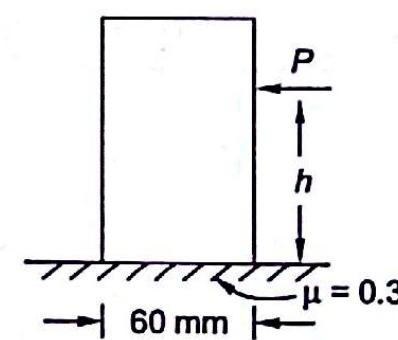

Fig. 6.27
6.7 Fig. 6.27 shows a block of width b and weight mg . Force P is applied to block at height h . Coefficient of friction between block and floor is 0.3. At what height h force can be applied so that block slips without tipping?